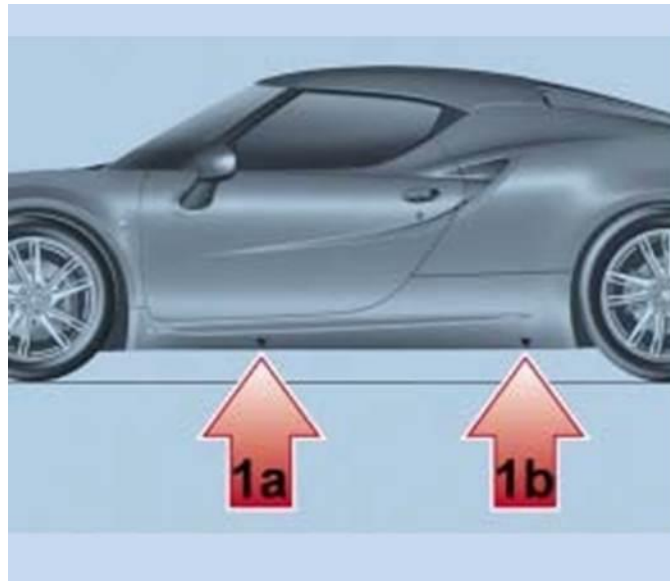

Fig. 2 Hoist Lifting Points
4. The vehicle lifting points front (1a) and rear (1b) are marked on the side skirts as shown in (Fig. 2).